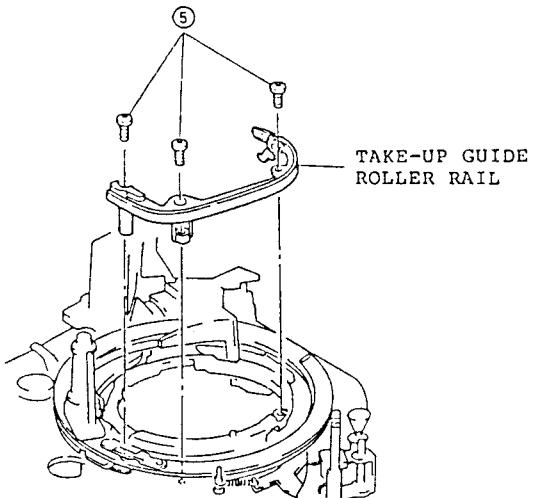

Fig. 2-87
(See Fig. 2-87)
17. Remove the take-up guide roller rail. (See Fig. 2-87)